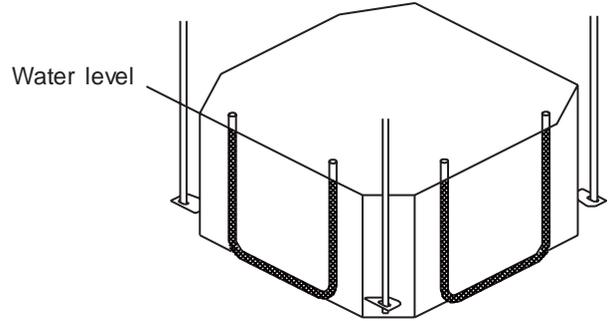

**Fig. 4.6**
**NOTE:** The bottom of the unit should be 10-18 mm (0.4-0.7") higher than the ceiling board. Generally, L (indicated in Fig.4.6) should be half the length of the suspension bolt or long enough to prevent the nuts from coming off.